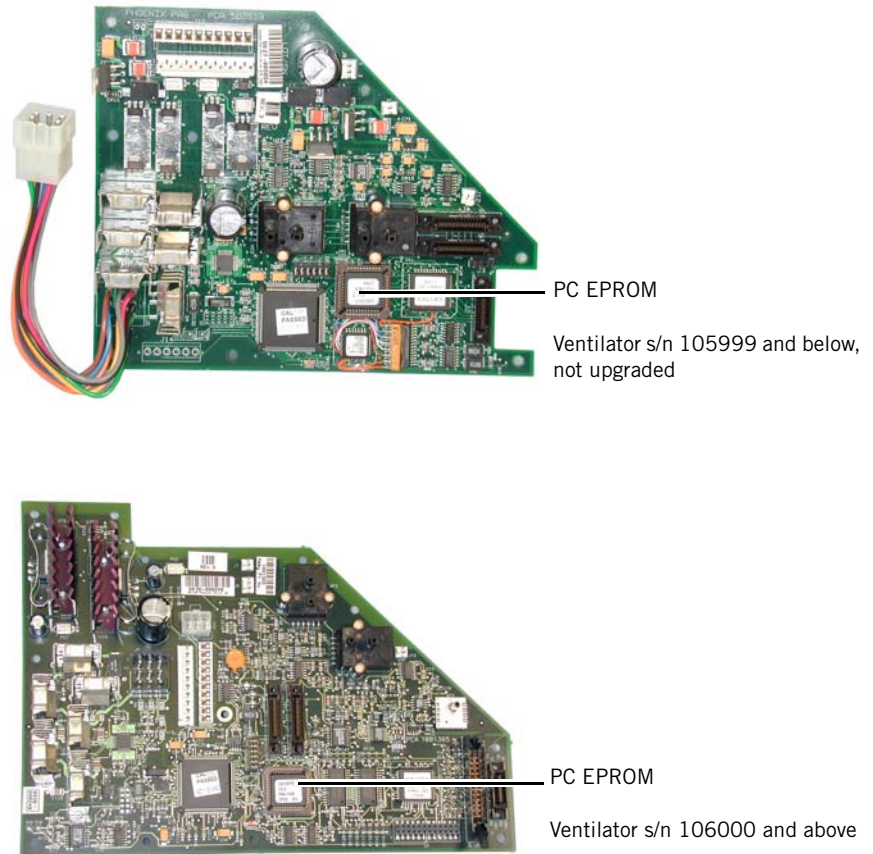

*Figure 8-1: DC Board EPROM Location*
2. Use the extraction tool to remove the existing EPROM (Figure 8-1 shows the EPROM location on the board) and store in an antistatic container if required.